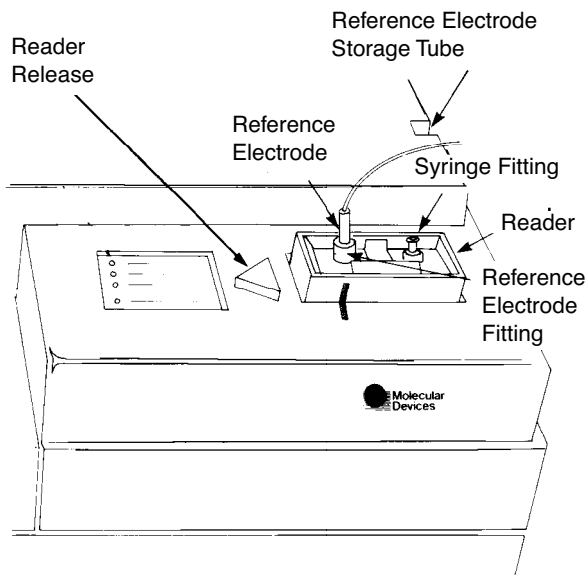

Figure 3-17: Reader Inserted in Workstation
- 1) Push the Reader release (triangular knob) to the left (Figure 3-17).